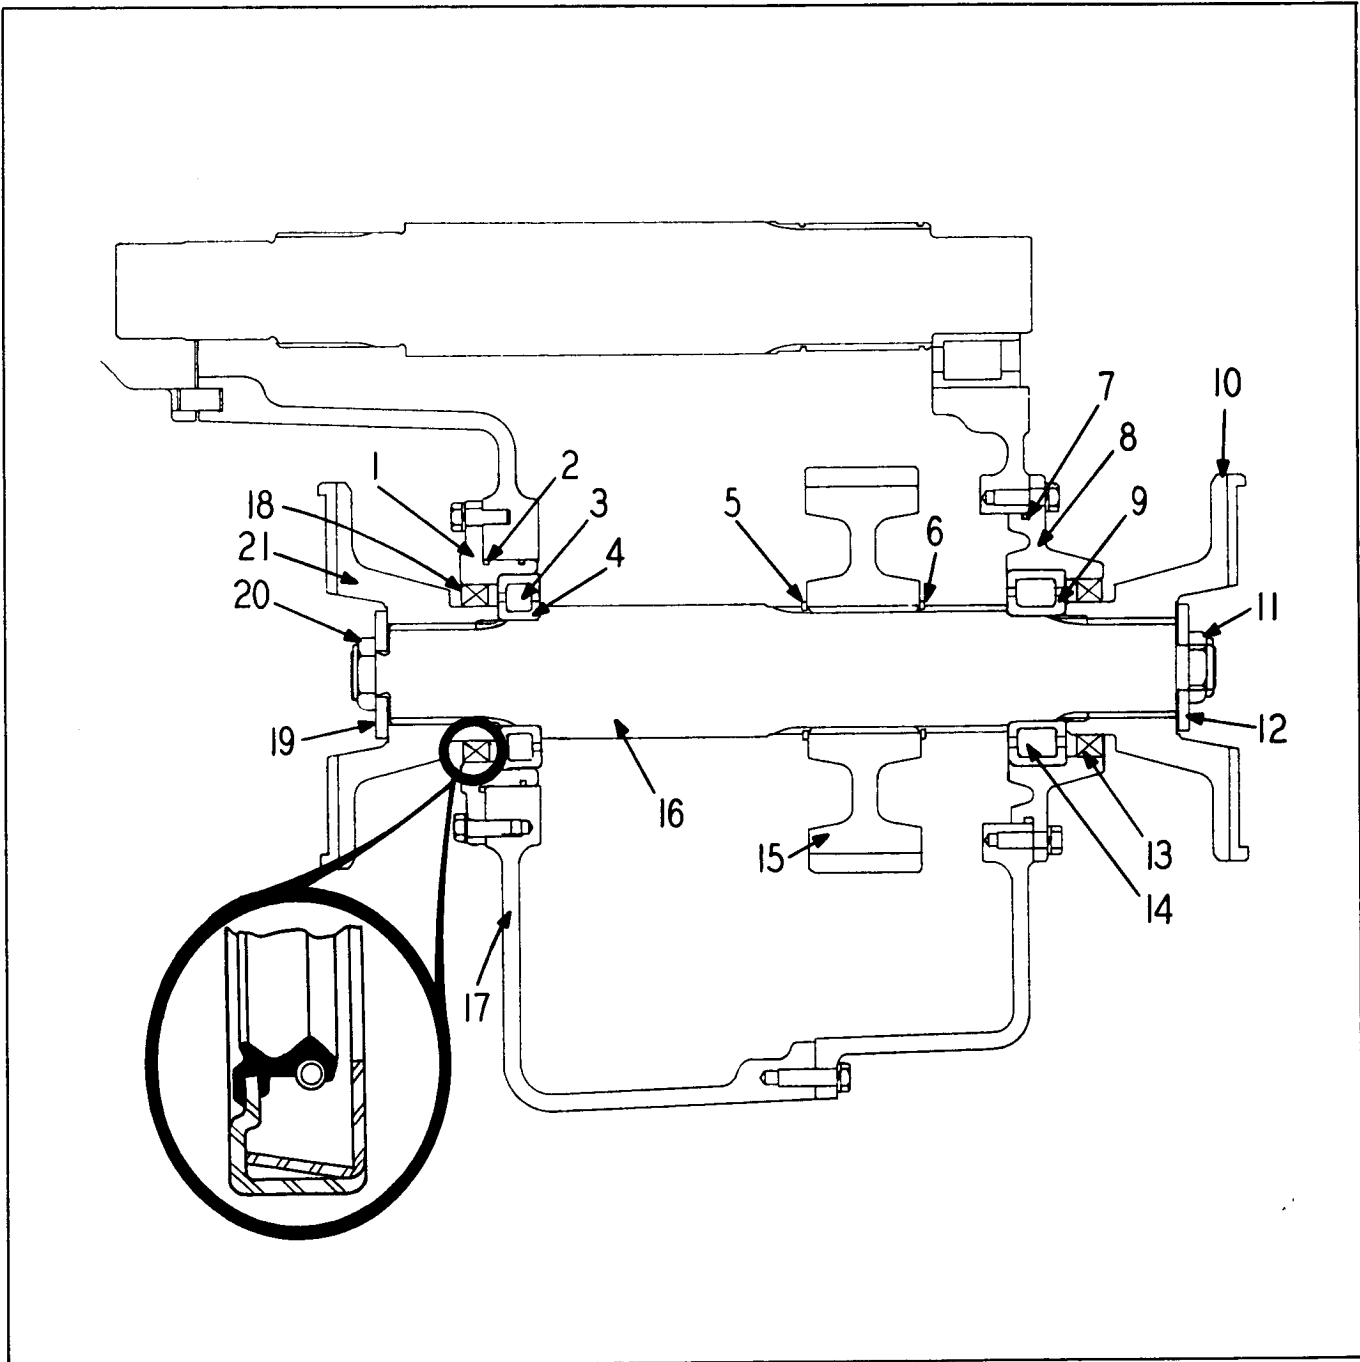

Figure 3-64
After removal of front output yoke (10, Fig. 3-64) refer to Fig. 3-7 and continue disassembly procedure. After removing bearing retainer caps (1, 8, Fig. 3-64), remove the "O" rings (2, 7) and discard. Remove the seals (13, 18, Fig. 3-64) from the retainer caps and discard. Bearing inner races (4, 9) must be removed with a hydraulic or mechanical puller. Remove snap ring (6) and using a suitable puller remove